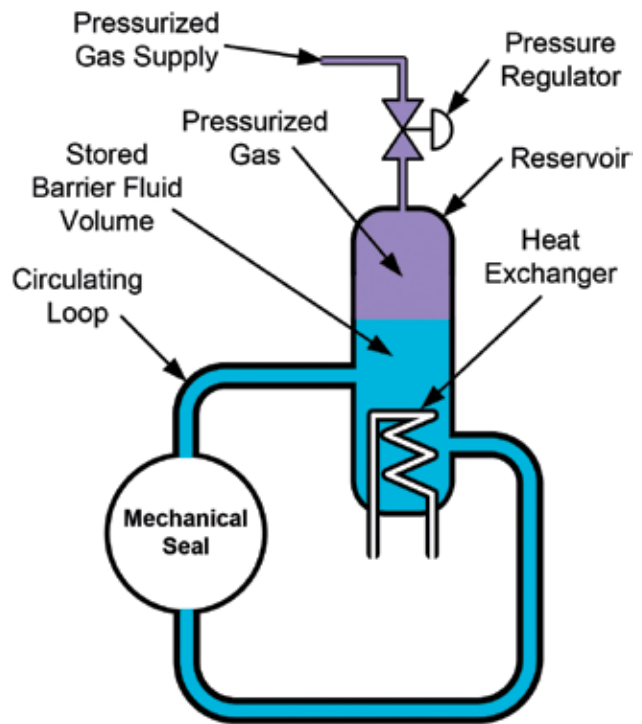

Figure 2. Simplified schematic of a Plan 53A system
- **Plan 53A**—A pressurized gas blanket in the reservoir pressurizes the fluid. Nitrogen is normally used and the pressure is controlled via a pressure regulator (see Figure 2). The barrier fluid is in direct contact with the pressurized gas.